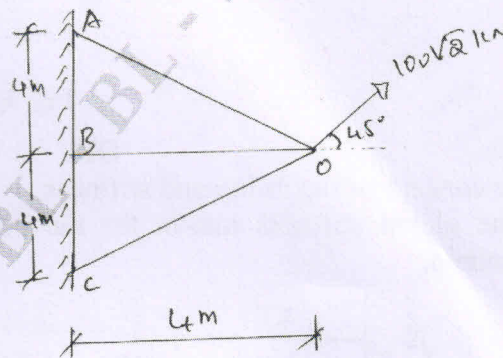

Fig. Q8
- 8 Find the forces in the members of the truss shown in Fig. Q8 by displacement transformation method.